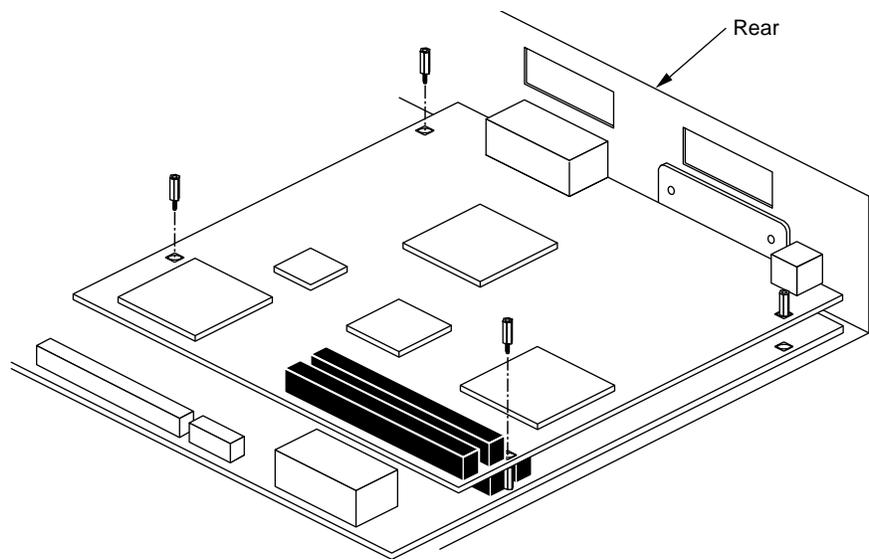

Figure 2-7 Inserting the Standoff Screws on the Z Board
- Using the open-ended wrench, insert and tighten the three standoff screws in the locations shown in Figure 2-7. As you tighten the screws, alternate among them so that the board is fastened evenly.